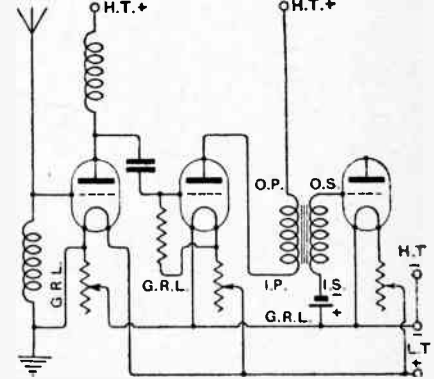
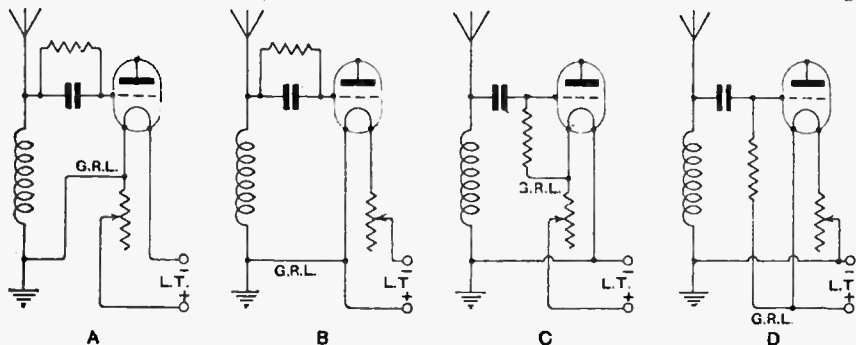

Fig. 2.—Correct grid return lead connections in a three-valve receiver.
Fig. 1.—Alternative grid return lead connections.
volts works best as a rectifier when the grid is made 2 volts positive, a 0.06 type valve is designed to give of its best as a rectifier when the grid is made 3 volts more positive than the negative side of its filament, and so on. This is very convenient, since it means that we need only connect the grid return lead directly to the positive side of the valve filament in order to get the correct value of grid bias. Let us glance for a moment at Fig. 1 (A). Here the leak is placed across the grid condenser, and bias is applied via the aerial tuning coil and grid leak, the grid return lead (marked G.R.L.) being connected to the positive side of the filament. It may be asked, why not take the G.R.L. direct to L.T.+ in Fig. 1 (A). This, however, would give the grid a greater positive potential with respect to the filament negative than is possessed by the filament positive owing to the voltage drop across the rheostat. This would not matter greatly if we were using, say, an 0.06 valve with a 3- or 4-volt source of filament supply, but if we were using a 6-volt accumulator and a 50 ohm rheostat in conjunction with this valve, then the grid would have far too much positive bias. Incidentally, also, any variation of the rheostat would also alter the value of the grid bias.
We can arrange, however, to connect our G.R.L. to L.T.+, and still obtain the correct bias by the simple expedient of putting our rheostat in the negative lead where it will have no effect whatsoever on the value of grid bias, as in Fig. 1 (B). It will be noticed that this entails the earthing of L.T.+ instead of the more customary earthing of L.T.-. This is a point that puzzles many, but actually it does not matter in the slightest whether we earth L.T.+ or L.T.-, the earthing
of either pole of the battery being merely incidental to the connection of the G.R.L. If you have a foible for earthing L.T.- you can easily do it by following out the connections of Fig. 1 (D), where the grid leak is returned direct to L.T.+ and the aerial coil no longer forms part of the G.R.L. In Fig. 1 (D) either L.T.- or L.T.+ may be earthed as fancy dictates, this circuit being exactly the same fundamentally as Fig. 1 (B). Fig. 1 (C)
is exactly the same as Fig. 1 (A) except that the grid leak is no longer placed across the grid condenser, and so it is immaterial which pole of the battery we earth. There is no magic in placing the grid leak across the grid condenser or otherwise, it being a matter of personal taste. Fig. 2 gives the grid return leads for the other valves of a conventional 1-v-1 receiver. The H.F. valve requires that its grid be not less negative than the negative side of its filament. Therefore we connect our G.R.L. direct to the negative side of the filament. Do not connect it to L.T.-, or the result will be that any variation of the filament rheostat will alter the grid potential. Matters could be simplified and made more conventional by placing the rheostat in the negative lead and connecting the G.R.L. to L.T.-. In the case of an H.F. valve it so happens that the L.T.- is always earthed and not L.T.+, but this, again, is only incidental to the G.R.L. connection, and has no virtue in itself. With regard to the detector valve a moment's thought will reveal to us that following a tuned anode stage it is impossible to place the grid leak across the grid condenser, as this would permit the
H.T. battery to interfere and give the grid a heavy positive bias. The bottom end of the grid leak can be connected as shown, or the rheostat could be put in the negative lead, and the bottom end of the leak connected to L.T.+ direct. In the case of the L.F. valve it is necessary to make the grid more negative than the negative side of the filament. This is done by means of a small biasing battery. It is important to note, however, that the positive end of this biasing battery must be connected to the negative side of the valve filament. Brief consideration will reveal why. Let us assume that we want to make the grid $\frac{1}{2}$ volts more negative than the negative side of the filament. Therefore by following the connections shown, only one dry cell ($1\frac{1}{2}$ volts) is needed. Assuming that we are using a D.E.5 valve and a 6-volt accumulator, and have connected the positive of this biasing battery to the filament positive: we shall then require a biasing battery of $7\frac{1}{2}$ volts, since we have first to overcome the 6 volts positive bias, given to the grid by returning the G.R.L. to filament positive before we can start to put actual negative bias on the grid. However, no disadvantage would be given by this method, other than having to use an unnecessarily bulky grid battery. An excellent rule to remember is as follows: Place all rheostats of amplifying valves, whether H.F. or L.F., in the negative lead and return the G.R.L. direct to L.T.—. In the case of valves used for grid rectification, place all rheostats in the L.T.— lead and connect the G.R.L. direct to L.T.+ . Place the grid leak across the grid condenser or otherwise as fancy dictates, except in cases where the coupling to the preceding valve is by means of the tuned anode method, as in the case of the detector valve in Fig. 2. Do not trouble about such points as the earthing of L.T.— or L.T.+ , which will automatically determine themselves according to the connections of the G.R.L.